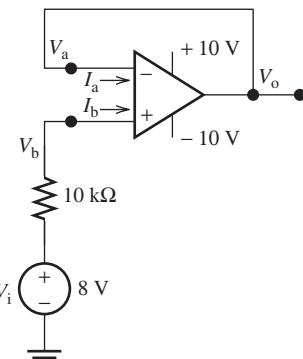

FIGURE P8.71 Circuit for Problem 8.71.
8.71 (A)* Find the output voltage for the circuit shown in Figure P8.71.